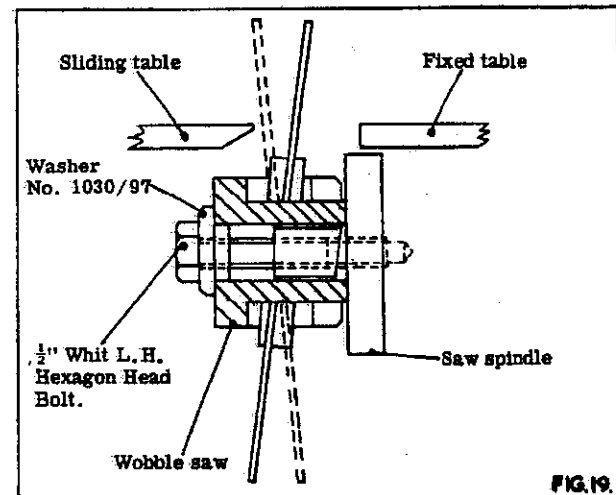

FIG. 19.
3. Fit the wobble saw to saw spindle as shown in fig. 19 and secure to saw spindle by means of 1/2" whit left hand thread hexagon head bolt supplied.